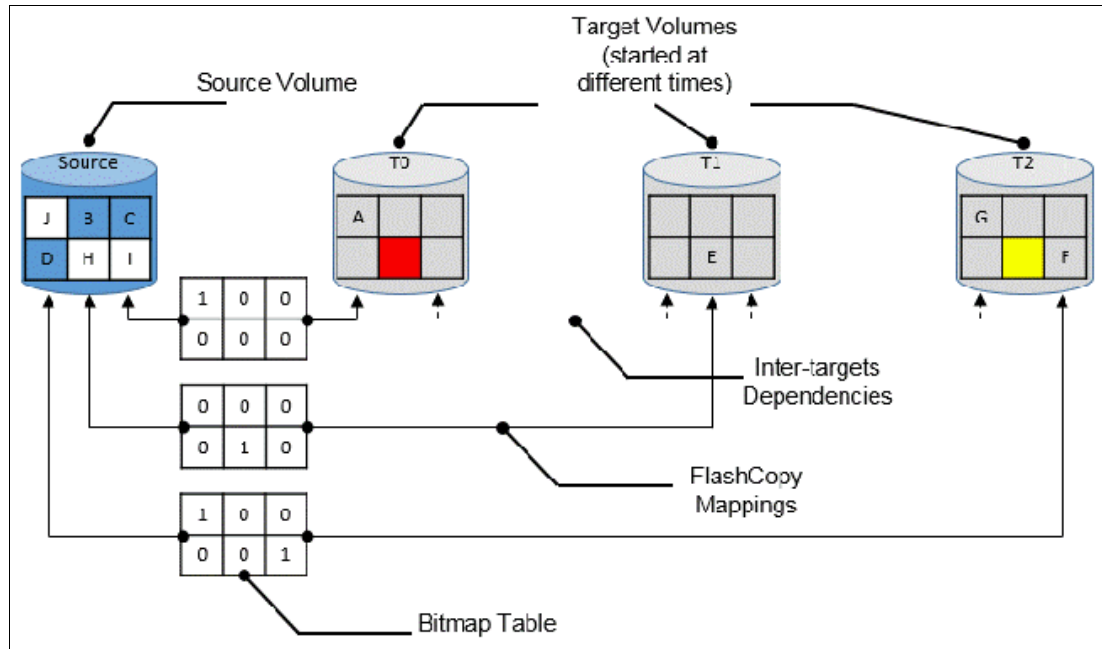

Figure 10-13 FlashCopy dependencies example
To avoid any significant effect on performance because of multiple targets, FlashCopy creates dependencies between the targets. Dependencies can be considered as “hidden” FlashCopy mappings that are not visible to and cannot be managed by the user. A dependency is created between the most recent target and the previous one (in order of start time). Figure 10-13 shows an example of a source volume with three targets.
For example, in Figure 10-13 on page 572, if the yellow grain on T2 is read, it returns “H” because no newer target than T2 exists. Therefore, the source is read.
As another example, in Figure 10-13 on page 572, if the red grain on T0 is read, it returns “E” because two newer targets exist for T0, and T1 is the oldest of those targets.
For example, in Figure 10-13 on page 572, if the grain “G” is changed on T2, it must be copied to T1 (next oldest not yet copied) first and then changed on T2.
- ▶ If the grain in the target that is being written is not yet copied, the grain is copied from the oldest copied grain in the mappings that are newer than the target, or from the source if none is copied. For example, in Figure 10-13 on page 572, if the red grain on T0 is written, it is first copied from T1 (data “E”). After this copy is done, the write can be applied to the target.